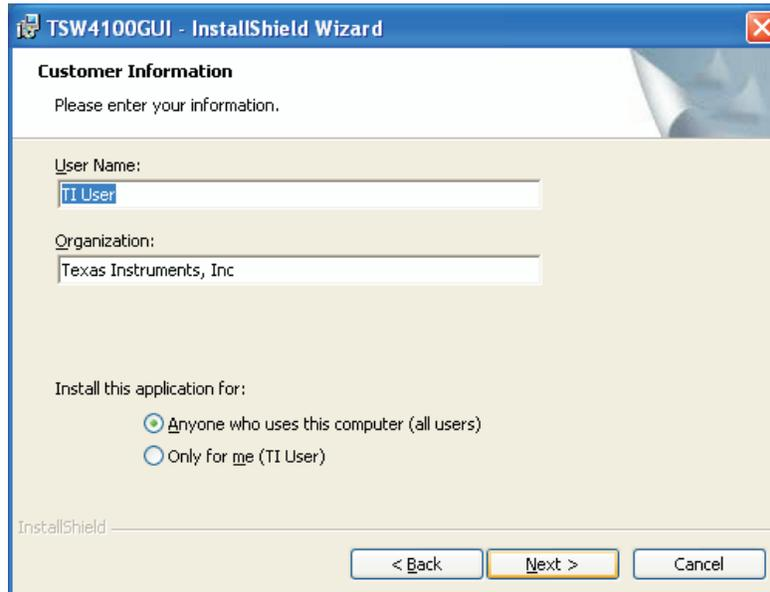

Figure 10. Customer Information
- On the Customer Information (Figure 10) screen, provide *User Name*, *Organization* information, and select the appropriate *Install this Application for* option. Click *Next*.